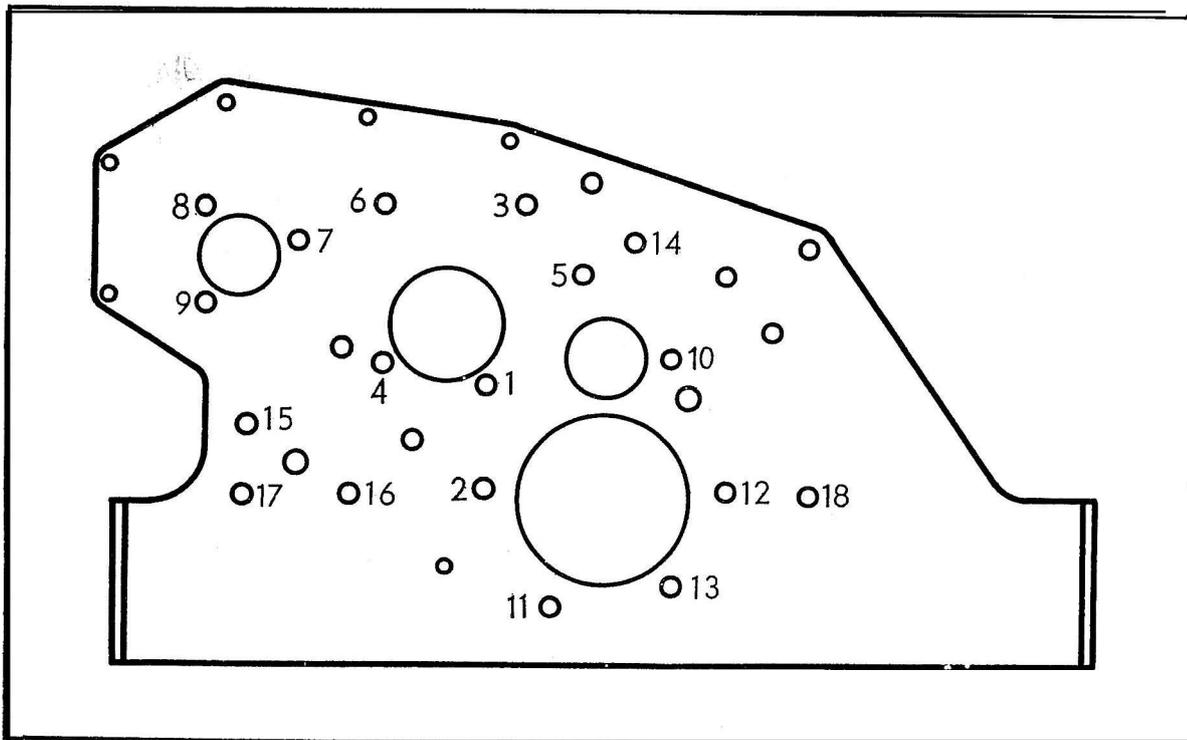

Fig. 41
operations on any tractor engine. Tightening should be carried out in the sequence shown in Fig. 41. Care should also be taken to ensure that after assembly the bolt locking plates do not foul any of the timing gears or extend over the recessed thrust face of the camshaft inner gear. Fitting instructions are given below for replacing a front mounting plate for any diesel engine built since 1952.
Tighten all the bolts using the correct sequence as shown in Fig. 41 to the correct torque also bearing in mind the following information. Bolts numbered 1 to 9 must be tightened prior to the assembly of the front cover and those numbered 10 to 18 after the cover is assembled. The sequence for the remaining bolts is not important.
35. Fit a new timing cover gasket, and replace the timing cover on the two dowels in the engine mounting plate. Secure in position with the appropriate screws and spring washers, and tighten to the correct torque, following the sequence shown in Fig. 41.